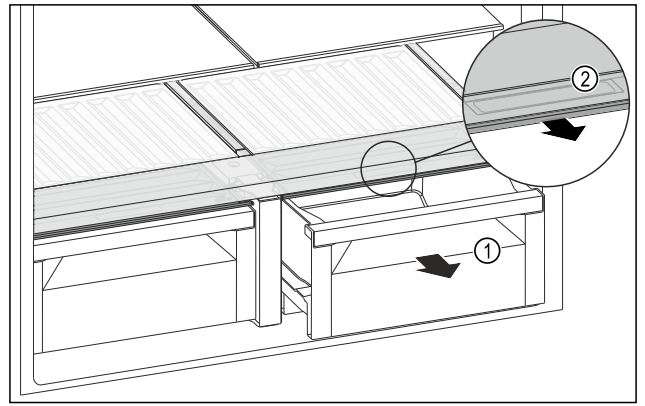

Fig. 126
- ▶ Pull out the drawer Fig. 126 (1).
- ▶ Grip the handle recess Fig. 126 (2) on the lid while pulling the lid forward at the same time.